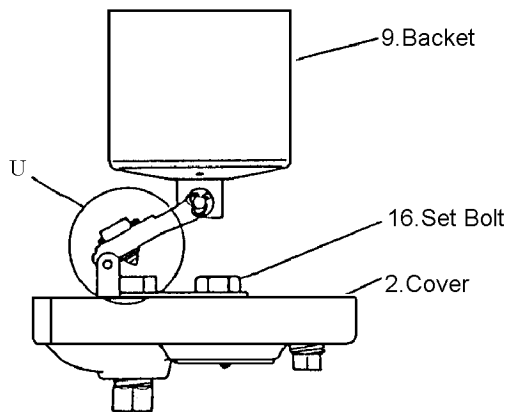

Fig.4
1. Disassemble Body Plug(3) take out the Screen(17) check and clean.
2. Disassemble Cover Bolt(20) take off the Cover(2), the internals (Valve Seat(5), Valve(6), Valve Holder(7), Pin(8), Bucket(9), Eyebolt(10), Eyebolt Pin(12), Lever(13), Bracket(14), Pin(15), Set Bolt(16)) will come together as the Fig.4.